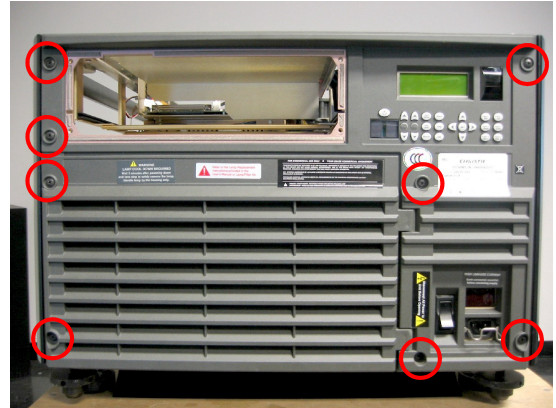

Figure 4-2 Remove Rear Cover
2. Remove the rear cover (including door) of the unit by disengaging the eight ¼ turn screws that secure it to the chassis, see **Figure 4-2**.